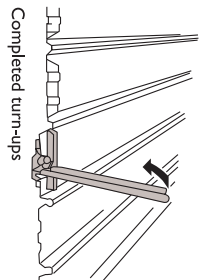

Figure 7.
- 4. The higher end of each sheet should be turned up 90 degrees, forming a wall, which will prevent water from being blown up into the building. The lower end should be partially bent down to form a slope. This will help water to flow into the gutter and prevent it from creeping back under the sheet. Bending can easily be carried out using a bending tool available from the Youngman Roofing. (see fig 7 & 8)